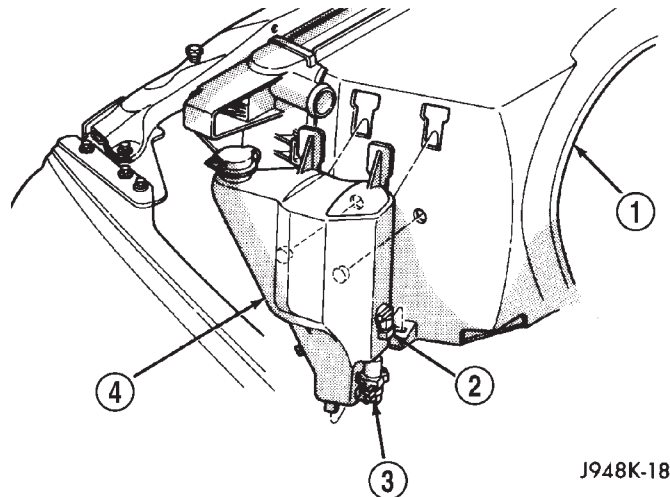

Fig. 4 Washer Reservoir
(3) Disconnect the upper radiator hose from the radiator.
(4) Disconnect the headlamp and dash wire harness connector for the washer fluid level switch from the switch connector receptacle.
(5) Disconnect the headlamp and dash wire harness connector for the washer pump/motor unit from the motor connector receptacle.
(6) Disconnect the washer hose from the barbed outlet nipple of the washer pump/motor and allow the washer fluid to drain into a clean container for reuse.
(7) While pulling the washer reservoir away from the fan shroud, lift the reservoir upwards far enough to disengage the reservoir mounting tabs from the keyed upper and lower mounting slots in the fan shroud (Fig. 4).
(1) Position the washer reservoir into the engine compartment (Fig. 4).
(2) Align and insert the upper and lower washer reservoir mounting tabs into the keyed upper and lower mounting slots in the radiator fan shroud. When all the tabs are inserted, use hand pressure to push the reservoir downwards far enough to engage the mounting tabs in the keyways of the mounting slots.
(3) Reconnect the washer hose to the barbed outlet nipple of the washer pump.
(4) Reconnect the headlamp and dash wire harness connector for the washer pump/motor unit to the motor connector receptacle.
(5) Reconnect the headlamp and dash wire harness connector for the washer fluid level switch to the switch connector receptacle.
(6) Reconnect the upper radiator hose to the radiator.
(7) Refill the engine cooling system. (Refer to 7 - COOLING - STANDARD PROCEDURE - REFILL/ ALL EXCEPT DIESEL ENGINE) or (Refer to 7 - COOLING - STANDARD PROCEDURE - REFILL/ DIESEL ENGINE).
(8) Refill the washer reservoir with the washer fluid drained from the reservoir during the removal procedure.
(9) Reconnect the battery negative cable.